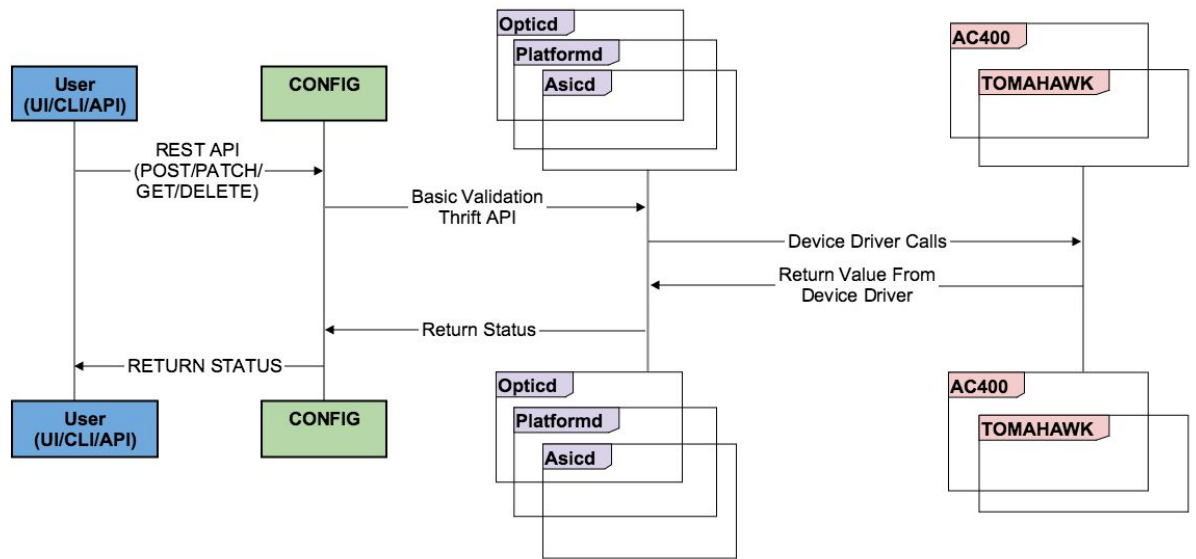

Figure 2: Transaction diagram for configuration requests
- Figure 2: Transaction diagram for configuration requests
The diagram shown in Figure 2 above, illustrates an API call that is initiated by a GUI or CLI. This API call originates an appropriate HTTP request that will be terminated at the Config Daemon. Based on the incoming request, Config Daemon then dispatches this request to the appropriate owner (asicd, opticd, platformd etc.) which in turn executes one or more functions per the incoming request.